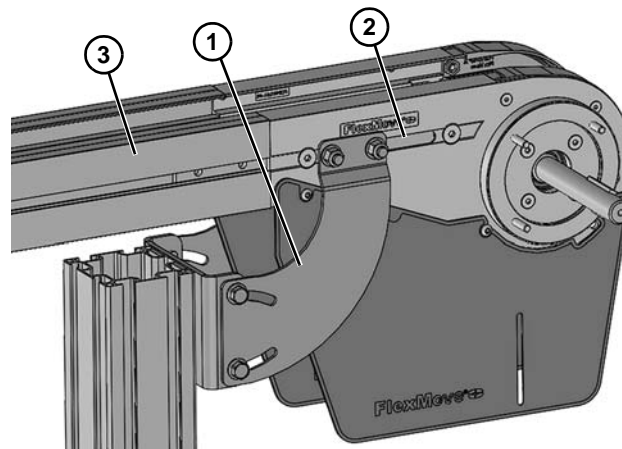

Figure 26
1. Attach the drive tail support brackets (Figure 26, item 1) to the slot (Figure 26, item 2) in the drive tail with the T-bolts and hex nuts. The brackets should be located closest to the frame (Figure 26, item 3).